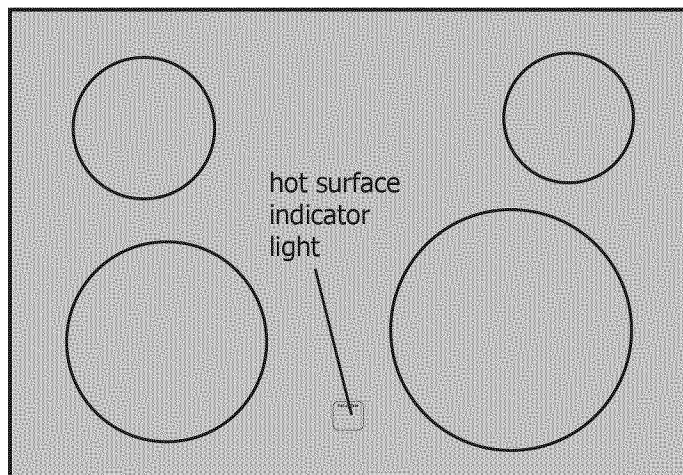
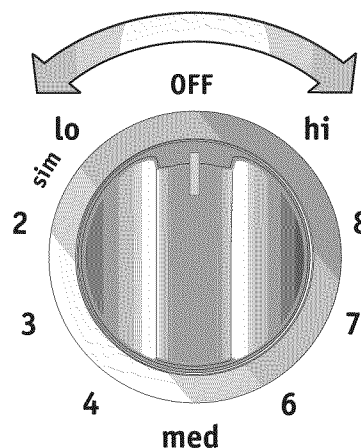

Figure 2 - Model B only
Figure 1 -Control knob shown is typical only.
The **hot surface** indicator light located on the cooktop (Figure 2) will glow when any surface cooking area heats up and will remain on until the glass cooktop has cooled to a MODERATE level.
2. Push in and turn the surface control knob in either direction to the desired setting (Figure 1).
The oven of the model A is vented **through the right rear coil element** (Figure 1) and the oven of the model B is vented **Through the front panel** and visible when the oven door is open (Figure 2). When the oven is on, warm air is released through the vent. This venting is necessary for proper air circulation in the oven and good baking results. **DO NOT** block the vent. Doing so may cause cooking failures, fire or damage to the appliance.
(Figure 1)
(Figure 2)